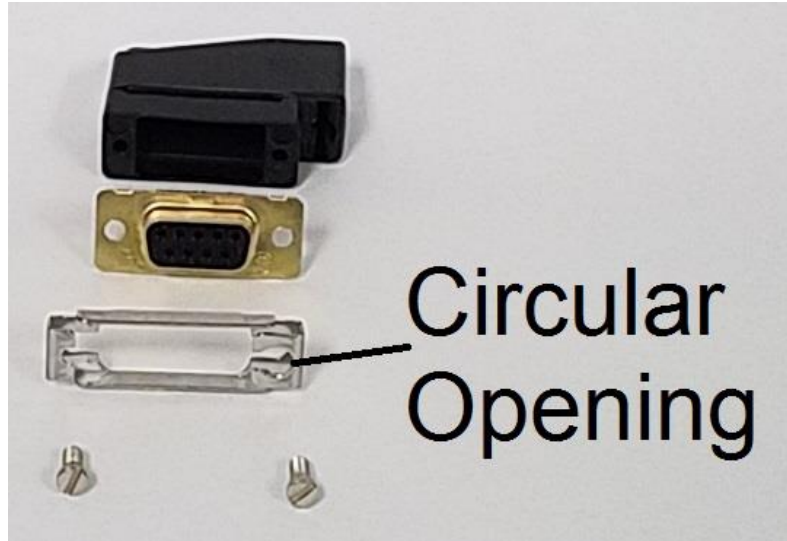

Figure 3-17
23. The pitch servo connector backshell and slidelock should be assembled as shown in Figure 3-17.